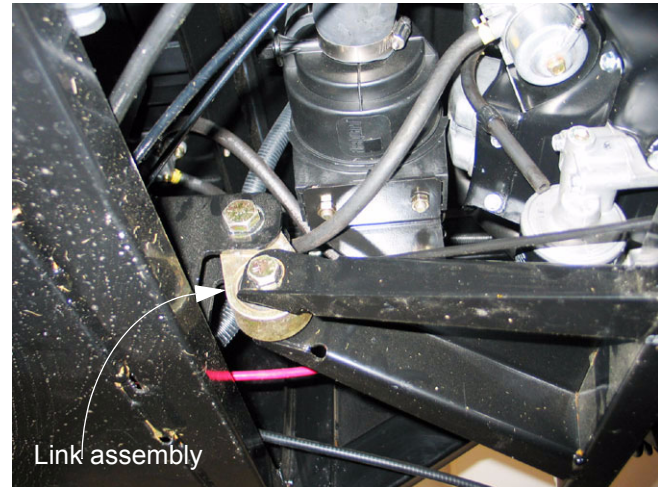

Figure 8.1
- 8.1. The link assembly (aka: dogbone joint) connects the engine and transaxle cradle to the frame of the Big Country. This joint locates the front of the cradle, yet allows enough freedom of movement that the cradle can swing up and down and pivot to accommodate suspension travel. See Figure 8.1.